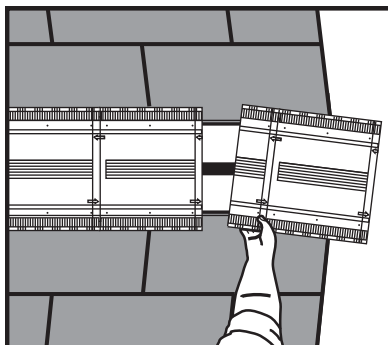

Fig. 4
**Note:** End plugs are built into the vent every 12 inches. The vent should always begin and end with an end plug. See Figure 4.